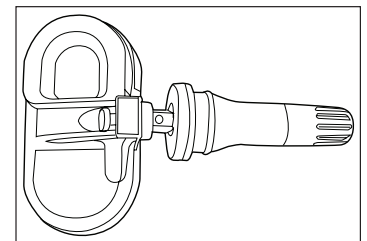

Figure 3
3. Install the sensor and valve: insert the valve through the rim hole, fix the screw to secure the valve and sensor by 2 Nm in torque, attach the sensor body to the inner surface of the rim by adjusting the angle of the sensor body (Figure 3).